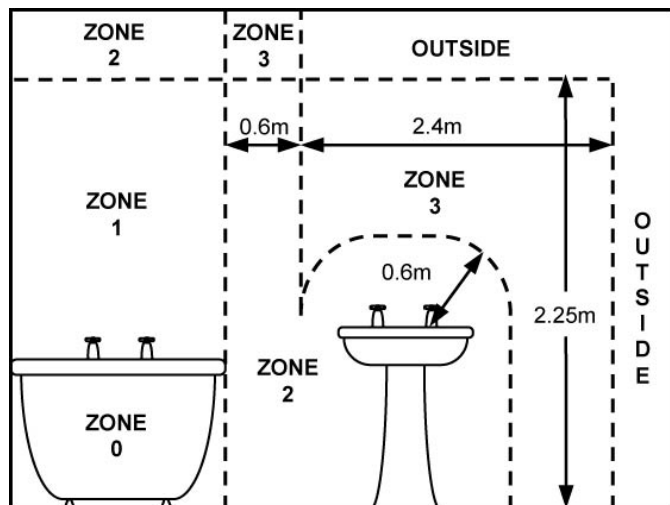

Fig 1
1. This cabinet is rated IP24 and must only be installed in bathroom Zone 3 or the Outside Zone, as shown in Figure 1.